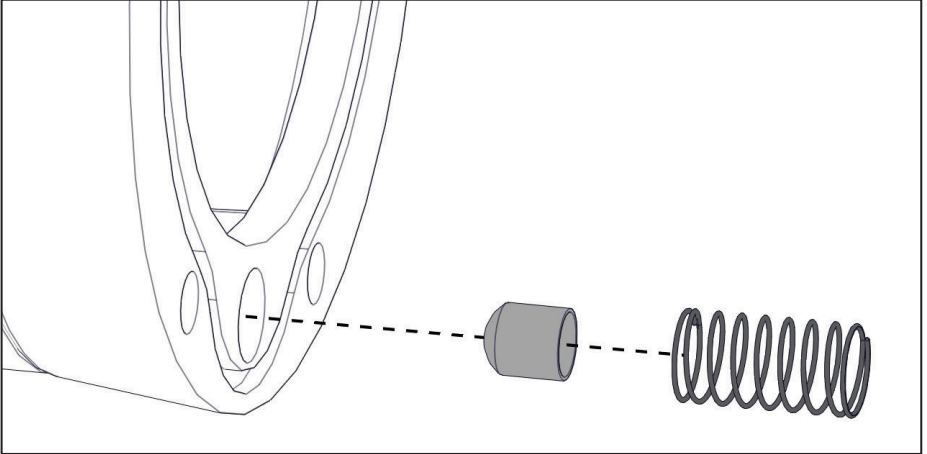

Figure 38 — Install thimble screen and spring
- ☐ Install the new thimble screen and spring (Figure 38).